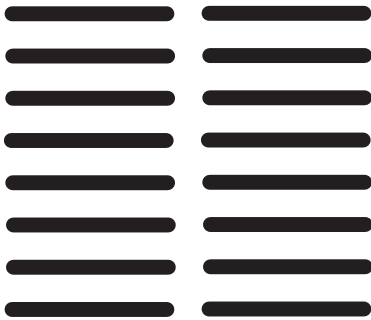

Figure 8
- Distance from work surface controls line width. Holding air brush close to work surface produces a thin line. Holding air brush further away from work surface produces a thicker line. Practice controlling distance from work surface until consistent lines are sprayed. See Figure 8.